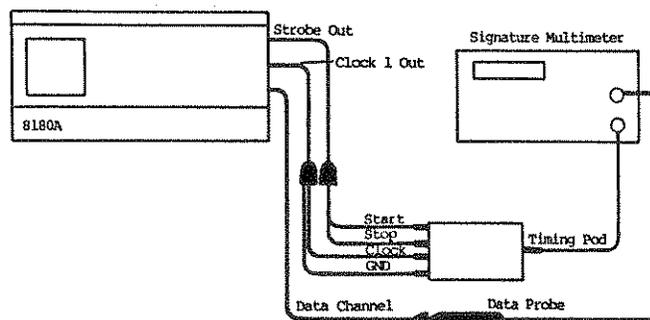

Figure 4-8 Memory Test Setup
12. Connect equipment as shown in Figure 4-8 and press RUN.